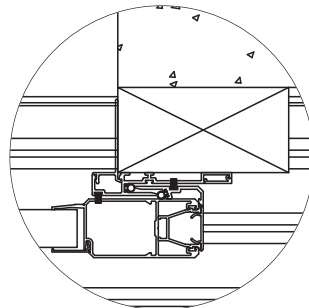

Figure 17
13. The hook strip may need to be field notched or ordered longer if jumping tracks with a build out. (See Figure 17)